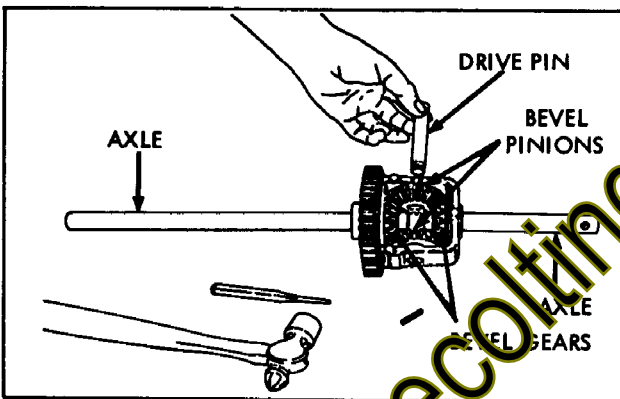

Figure 4-2
- b. Remove drive pin. (Figure 4-2)